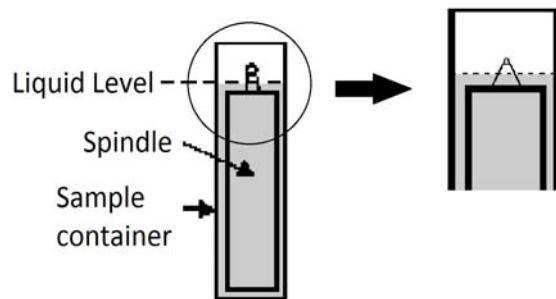

Fig. 10: Full LCP adapter.
- Close the sample (K) container with the stopper (M).
- Insert the container (K) to the lower part, in the circulation jacket (J) by turning it gently.
- Fasten the circulation jacket (J) to the connector (G).
- Connect the hook (H) and the spindle (L)
- Insert the spindle (L) in the circulation jacket (See the note \* below)
- Fasten the connector (G) to the hole in the back of the viscometer's metallic base. (**See the note \*\* below**)
- Check the level of the sample. It should be approximately in the middle of the cone, which is connected to the spindle connector (H). Figure 10 shows more information about this.
- Place the upper stopper (N) over the sample container.